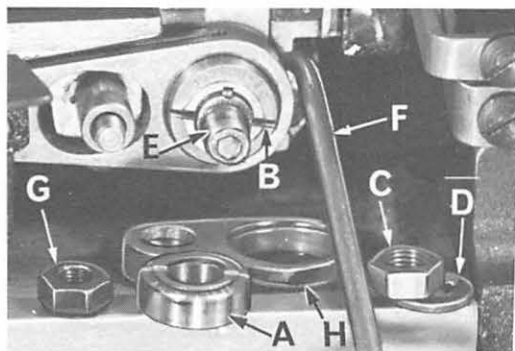

Fig. 13
If eccentrics are unusually tight fitting, in addition to removing nut (C) and washer (D) (Fig. 13 from shaft (E), it may be helpful to remove nut (G) and feed driving connection (H). Then continue as originally suggested.